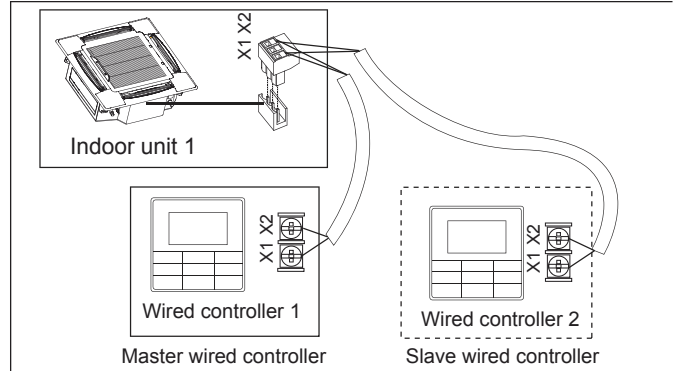

Figure 6.7
- ♦ Use 1 wired controller to control 1 indoor unit or 2 wired controllers (one master and one slave controller) to control 1 indoor unit (see Figure 6.7);